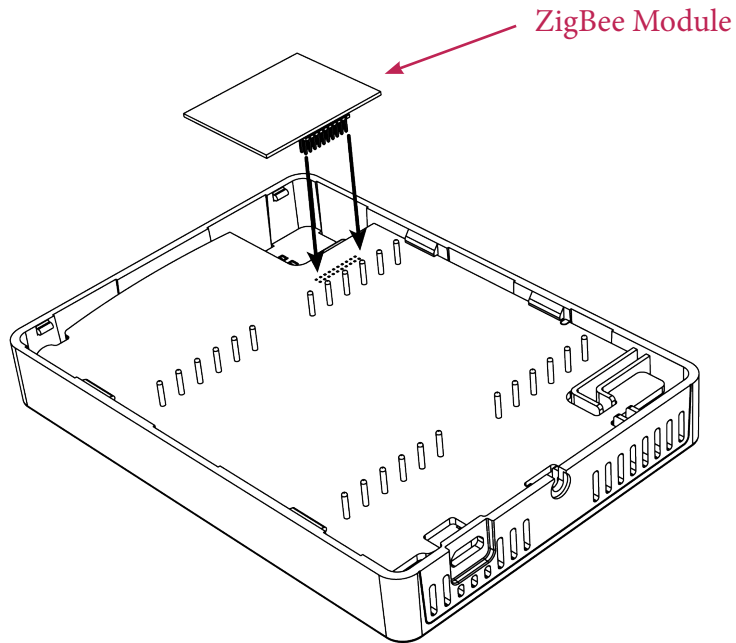

Figure 2
5. Remove existing ZigBee communication module from old model and install it on back side of new Room Controller (Figure 2).